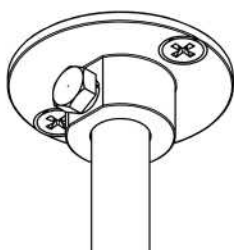

FIG. 6 - INSERT CABLE BASE IN TO CEILING
5. PUSH CABLE BASE INTO HOLE IN CEILING (SEE FIG. 6).